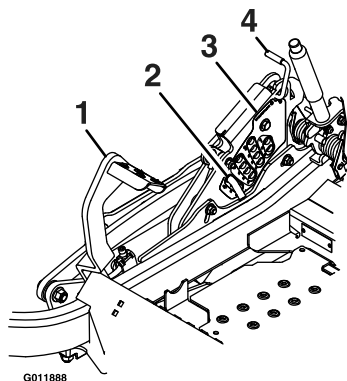

Figure 16
4. Raise and lock the deck to the 4 1/2 inch (11.4 cm) transport position (Figure 16).
6. Raise and lock the deck to the 4 1/2 inch (11.4 cm) transport position (Figure 16).